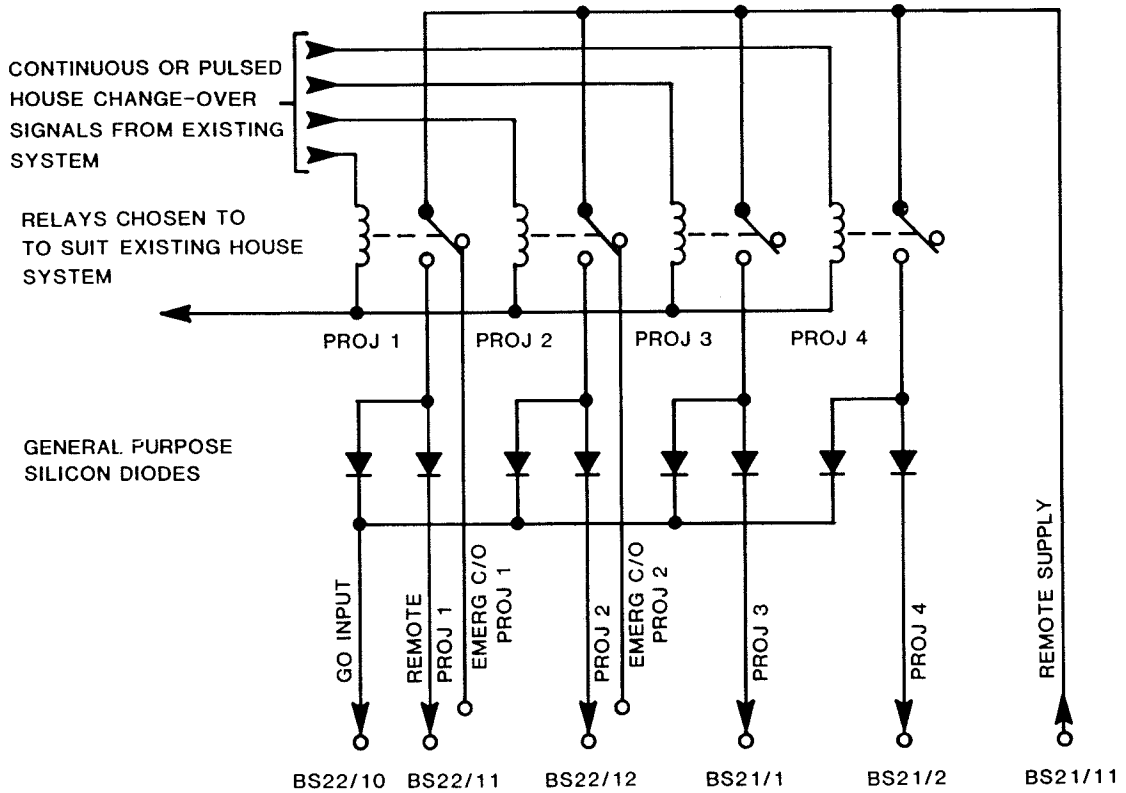

Fig. 2.27 Control of c/o by external equipment
- (a) Simple changeover control can be achieved by applying a momentary signal (0.5 to 1 sec.) to the appropriate rear terminals of the CP200. Usually, a simple interface will be required (for isolation purposes) between the CP200 and the house system. Fig. 2.27 shows an example of one such system.